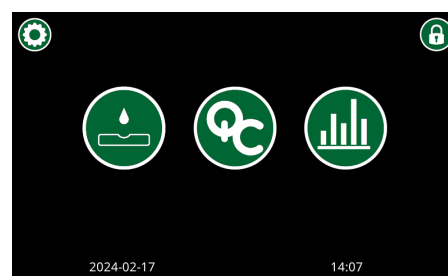

Figure 4. Home Screen
- Once the operator ID and PIN are entered and accepted, the analyzer moves to the Home Screen. See Figure 4.
In the Home Screen, see Figure 4, the operator can perform the following: